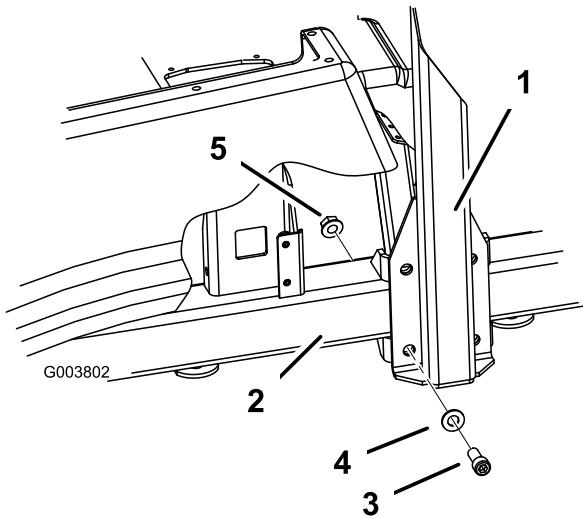

Figure 4
1. Position the ROPS bar assembly over the vehicle on each side of the sprayer frame behind and below the seats (Figure 4).
2. Secure the ROPS bar assembly to the frame (Figure 4) using 4 socket head bolts (1/2 x 1-1/4 inches), washers (1/2 inch), and flange nuts (1/2 inch).